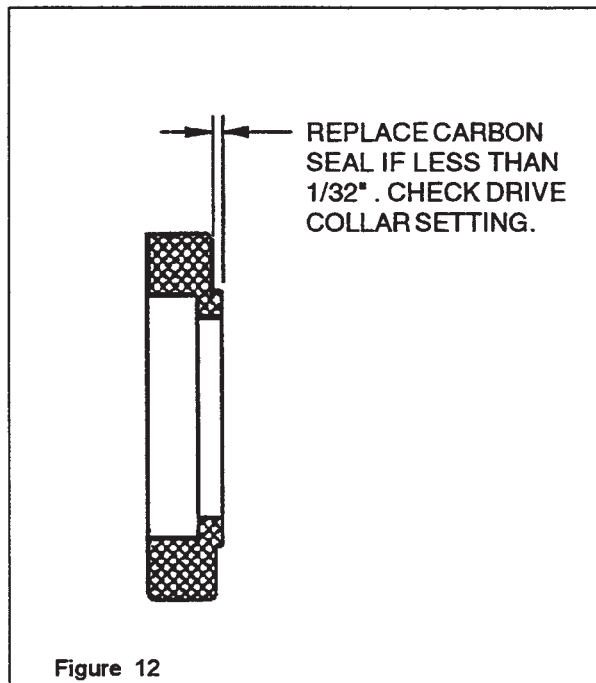

Figure 12
This type of seal should be replaced when the face is worn away, or when leakage is noted (Figure 12)
Inspection during cleaning will determine if the carbon seal needs replaced. No additional drive collar adjustment is necessary unless the seal is replaced. (Figure 12)
**NOTE:** Replace the carbon seal when the extension end of the seal is less than 1/32". (Figure 12)